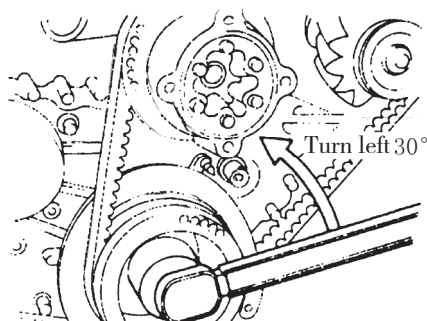

Fig. 1.15
(2) Place the first cylinder at the dead point position of compression stroke and turn the crankshaft about 30° from this position. See Fig. 1.15.